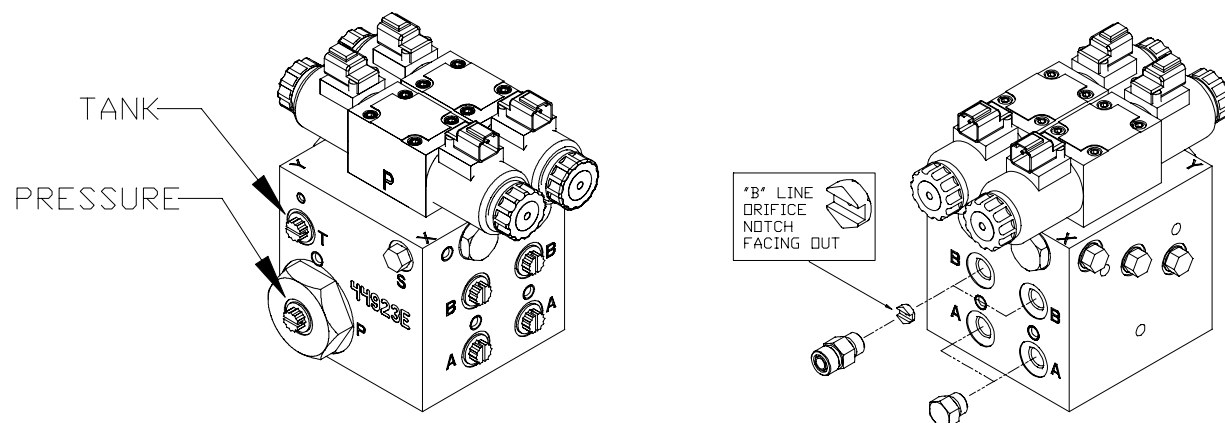

Figure 23: NORAC Valve Block Details
3. Insert the two orifices into the "B" ports. Note the orifice orientation in **Figure 23**.